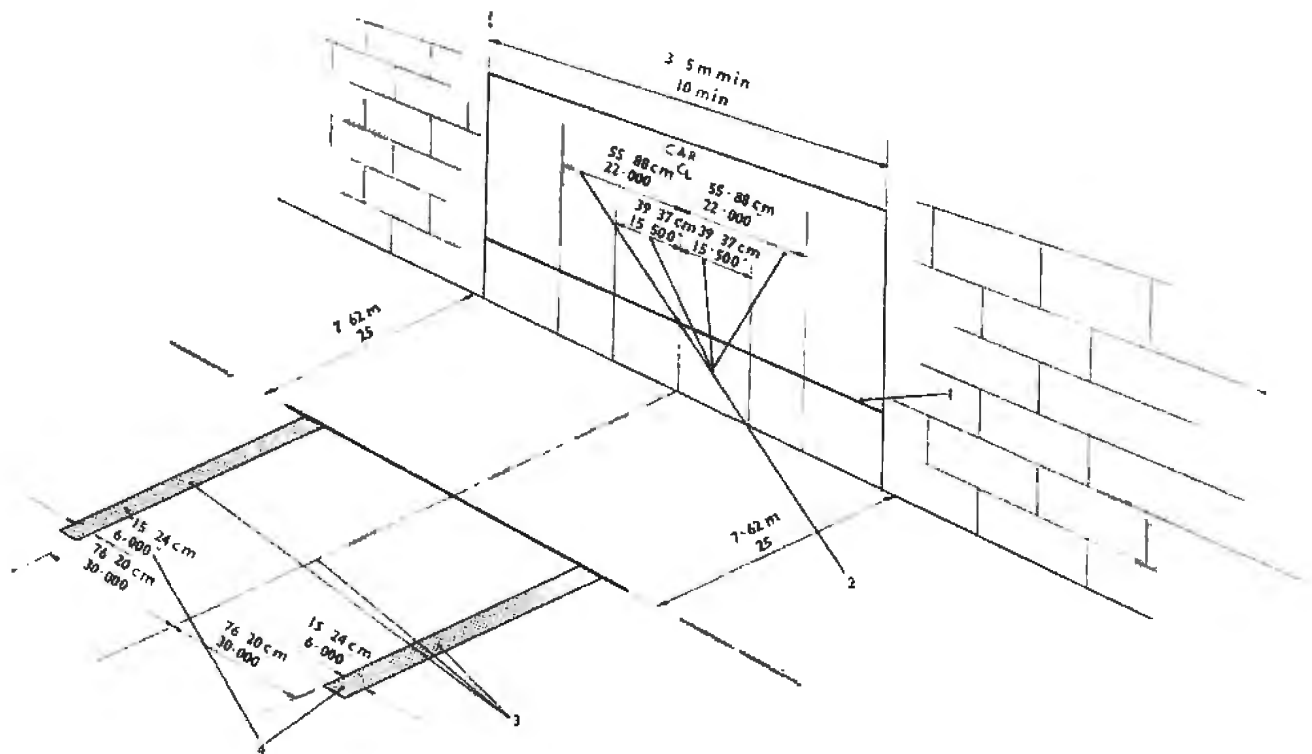

Fig. M8 (S) Wall and floor marked for headlamp adjustment
2 By employing a flat wall surface, preferably with a light coloured matt finish, marked out as in Figure M8(S) adjacent to a flat floor which is approximately 40 ft. in length and marked out as in Figure M8(S). An adjustable horizontal tape should also be provided.